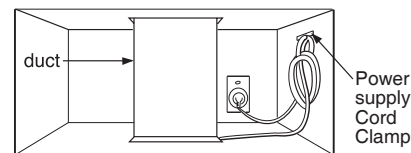

Figure 35
5. Use the power supply cord clamp to bundle the power supply cord. Install the power supply cord clamp, using a screw as shown in Figure 35, to the inside of the cabinet.